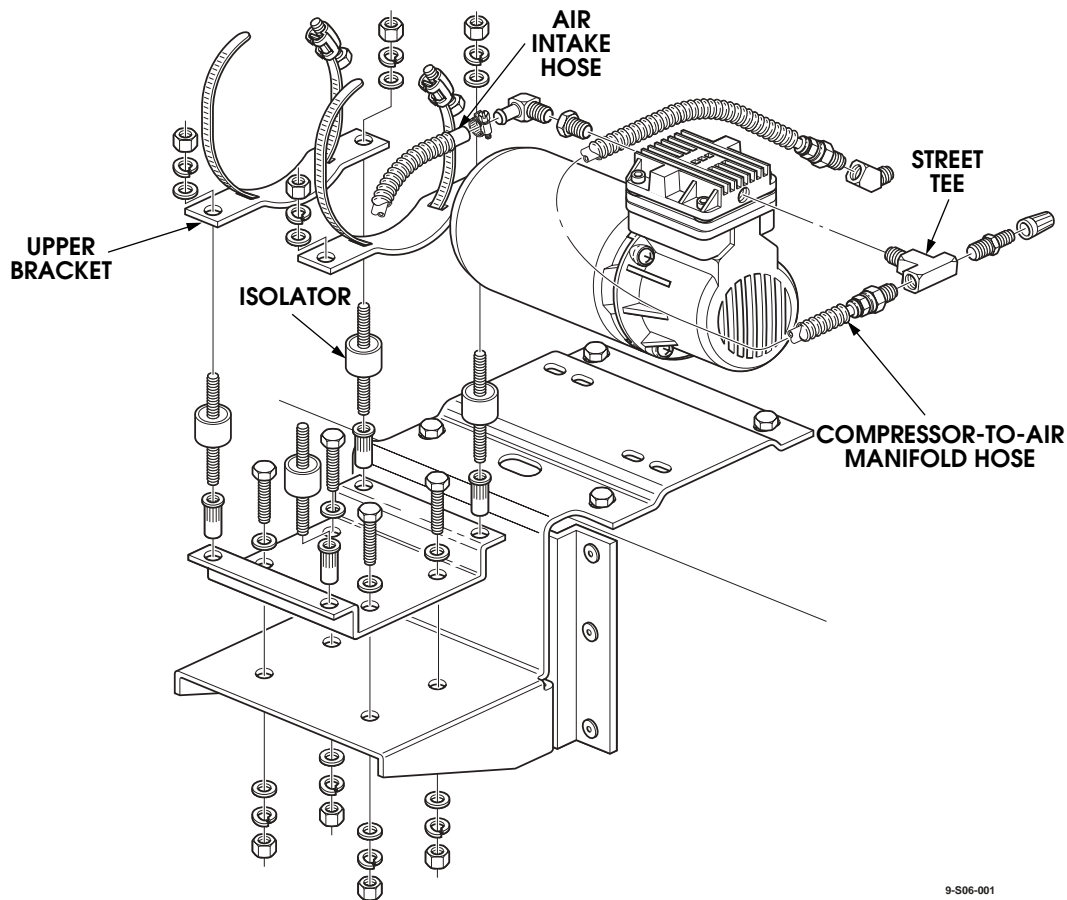

Figure 6-53: CTIS Compressor
2. Disconnect power and ground leads from compressor (Figure 6-53).